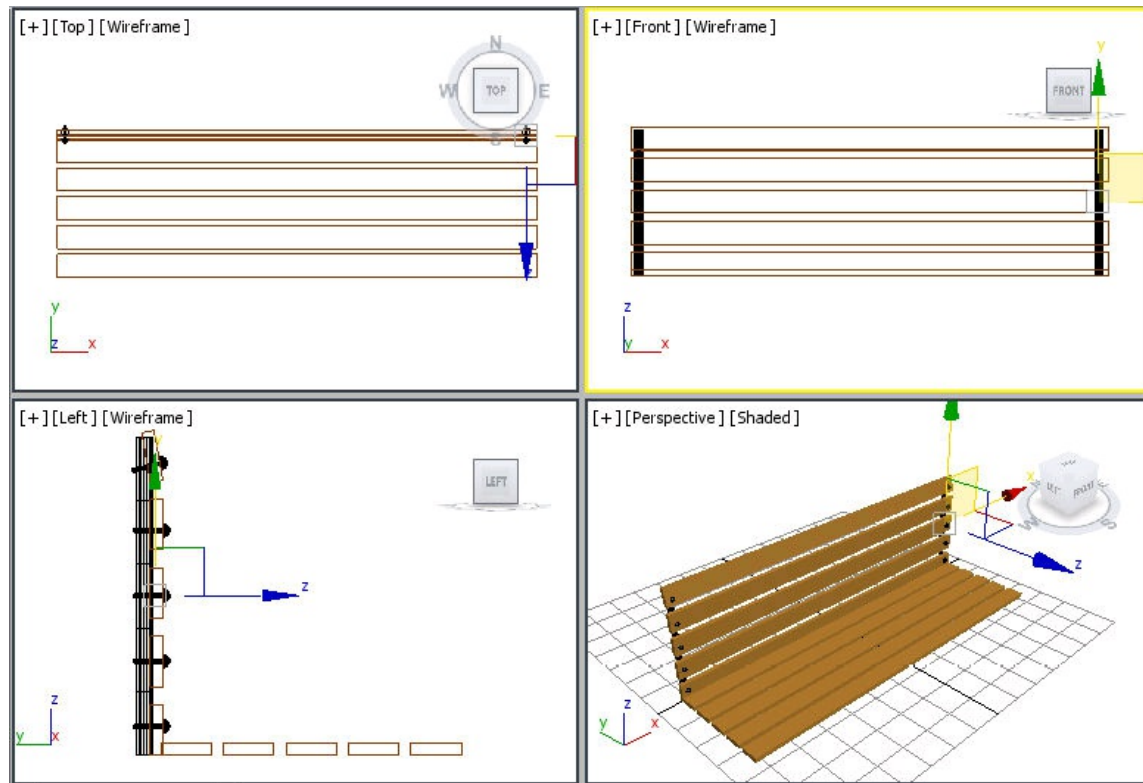

Figure 2-83 The right side rivets group displayed in viewports
2. In the **Clone Options** dialog box, make sure the **Copy** radio button is selected. In the **Name** text box, enter **right side rivets** to modify the name of the group and choose **OK**; *right side rivets* group is displayed, as shown in Figure 2-83.